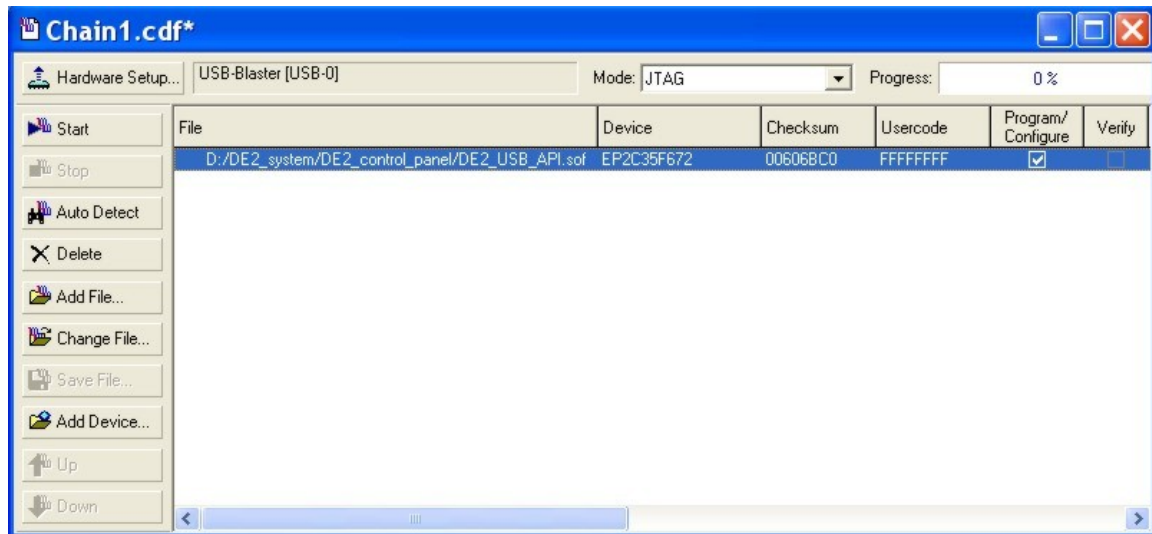

Figure 3.1. Quartus II Programmer window.
4. Select **Tools > Programmer** to reach the window in Figure 3.1. Click on **Add File** and in the pop-up window that appears select the *DE1\_USB\_API.sof* file. Next, click on the **Program/Configure** box which results in the image displayed in the figure. Now, click **Start** to download the configuration file into the FPGA.